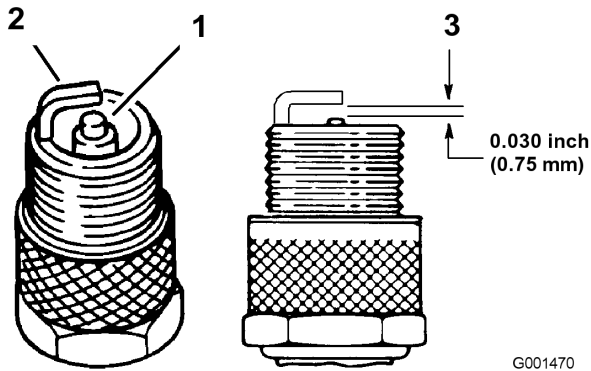

Figure 30
1. Look at the center of the spark plugs (Figure 30).
3. Check the gap between the center and side electrodes (Figure 30). Bend the side electrode (Figure 30) if the gap is not correct.
3. Connect the wires to the spark plugs (Figure 30).